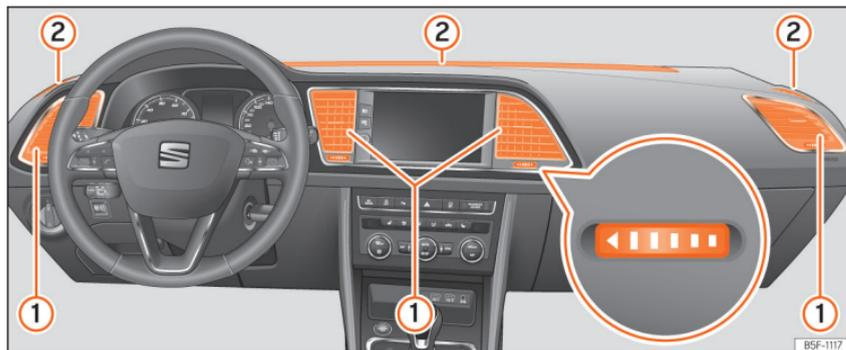

Fig. 198 On the dash panel air vents.
To ensure proper heating, cooling and ventilation in the vehicle interior, air vents **>>> Fig. 198 ①** should remain open.